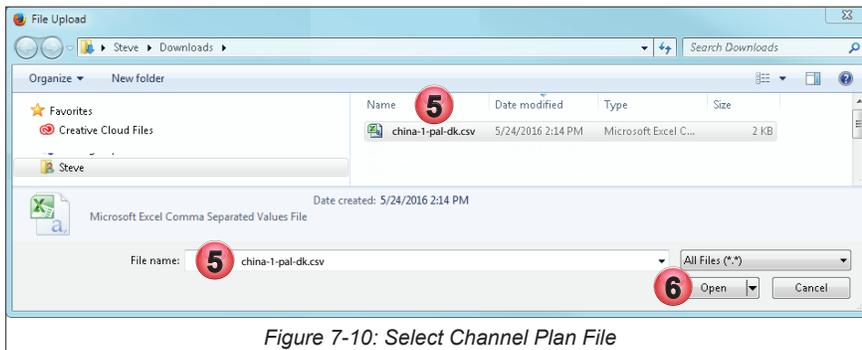

Figure 7-10: Select Channel Plan File
5. Browse to your custom Channel Plan file with the file manager window that opens, Figure 7-10 (the appearance of which depends upon the browser you are using).